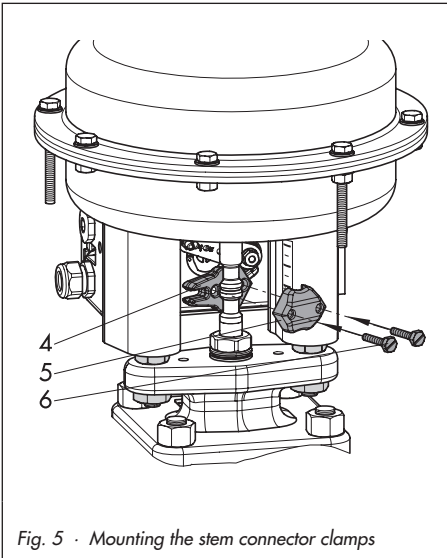

Fig. 5 · Mounting the stem connector clamps
- Place the stem connector clamp with the travel pick-off (4 in Fig. 5) behind the actuator stem and loosely fasten together with the mating clamp (5) using the screws (6).